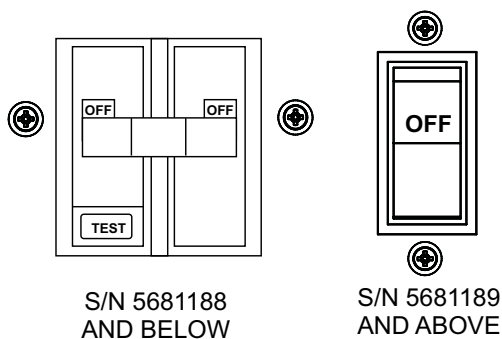

Figure 32. Main Circuit Breaker (OFF)
1. Place **main** circuit breaker (Figure 32) in the **OFF** position.